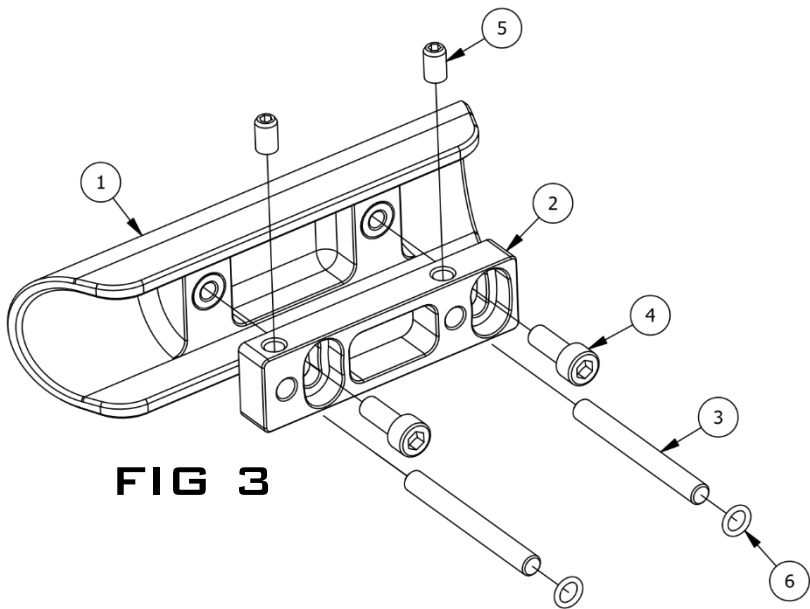

FIG 3
2. Loosen screws (Item 4 Fig 3 pg. 3)
| FIG 3 - BUTTSTOCK ASSEMBLY | | | |